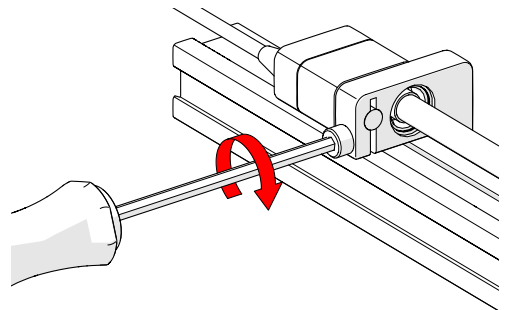

Fig. 58 - Tighten clamp screw
3. Tightening the 3 mm clamp screw on the index encoder support bracket (Fig. 58).